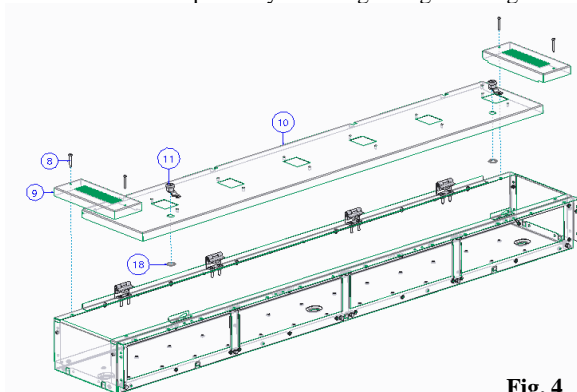

Fig. 4
- Next add the front plates by referring to Fig. 4 & Fig. 6.